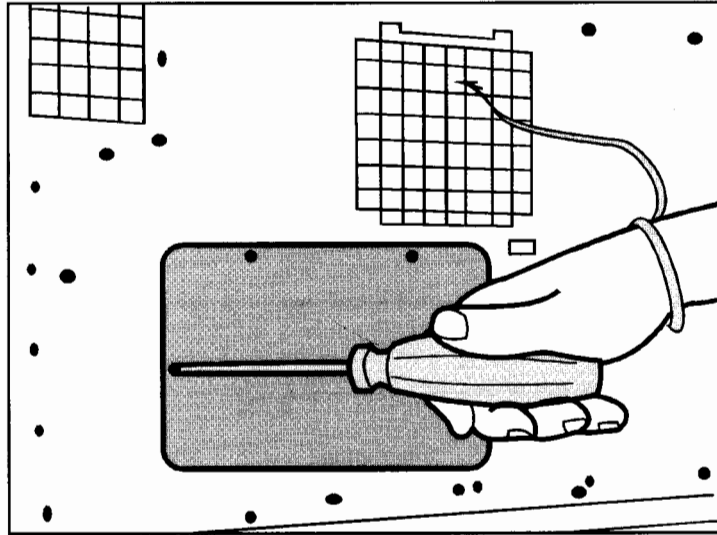

Figure 1-4. Removing the Metal Cover Plate
7. Put on an antistatic wrist strap (if you have one) and attach the clip to the area on the metal shield as shown in Figure 1-4.
8. Unscrew the 4 screws from the metal plate and remove the metal plate (Figure 1-4).
Before removing a board, put on the antistatic wrist strap (if you have one) and attach it to the metal grid as shown in Figure 1-4, or touch the antistatic package or any metal part of the printer.